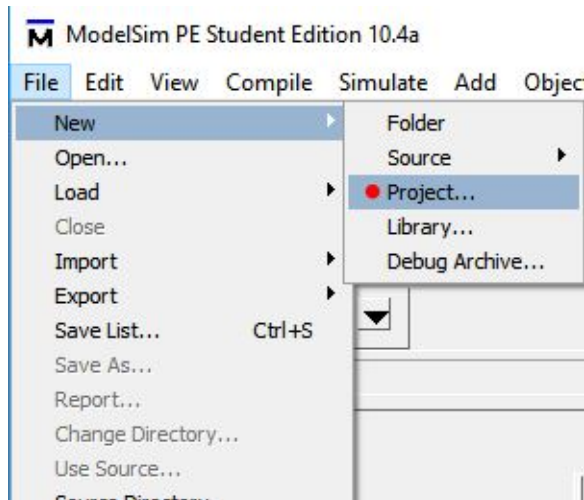

Figure 2.1 Click Project
- 2) Open the ModelSim simulator and Close the ‘IMPORTANT information’ window. Then click project in figure 2.1
- To create project, go to “File” and “New” and click the “Project” as figure 2.1